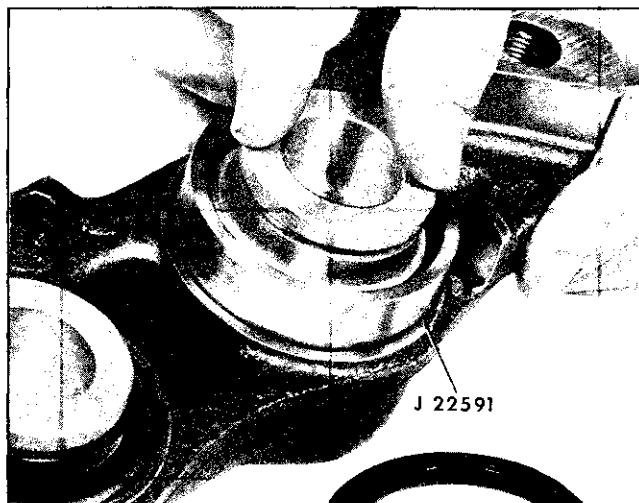

Fig. 5D-4 Installing Piston in Bore
7. Position installer J 22262 over piston and seat steel boot retaining ring evenly in counterbore. The boot retaining ring must be flush or below machined face of caliper. Any distortion or uneven seating could allow contaminating and corrosive elements to enter bore. (Fig. 5D-5)